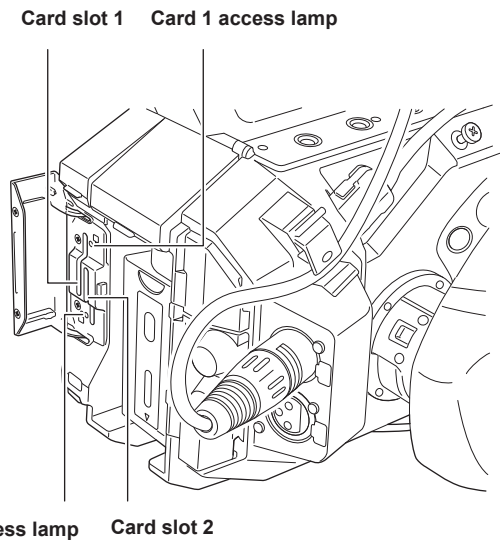

Fig. 2
- 2 Insert the SD card into the card slot. (Fig. 2)**